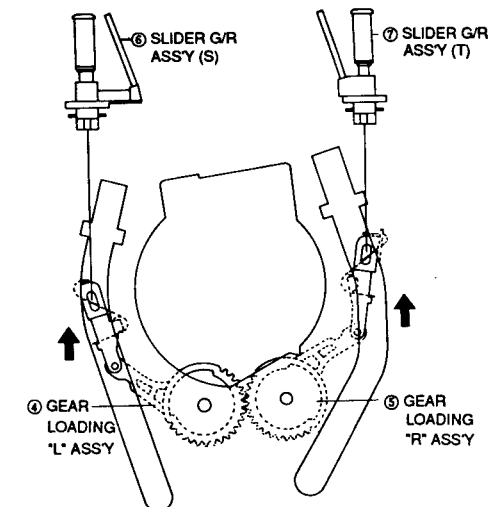

Fig. 58 Assembly of Slide Guide Roller "S", "T" Ass'y
- 4) Install the slide guide roller S, T ⑥, ⑦ into rail slot and then move it to the position of gear loading L, R ass'y ④, ⑤. (Refer to Fig. 58)
- 5) Turn the gear master ② toward arrow "A". (Eject mode)